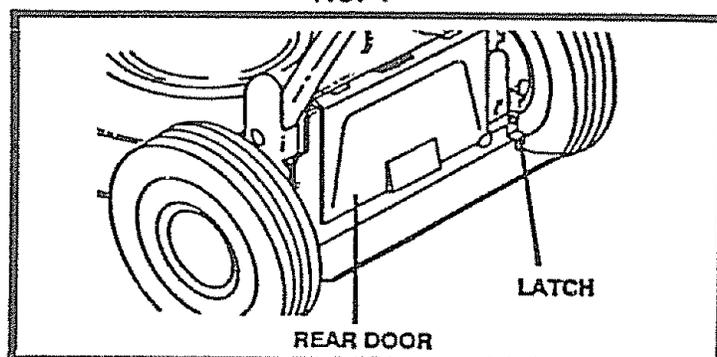

FIG. 5A
- Rotate rear door latch clockwise to allow rear door to be opened (See Fig. 5A).